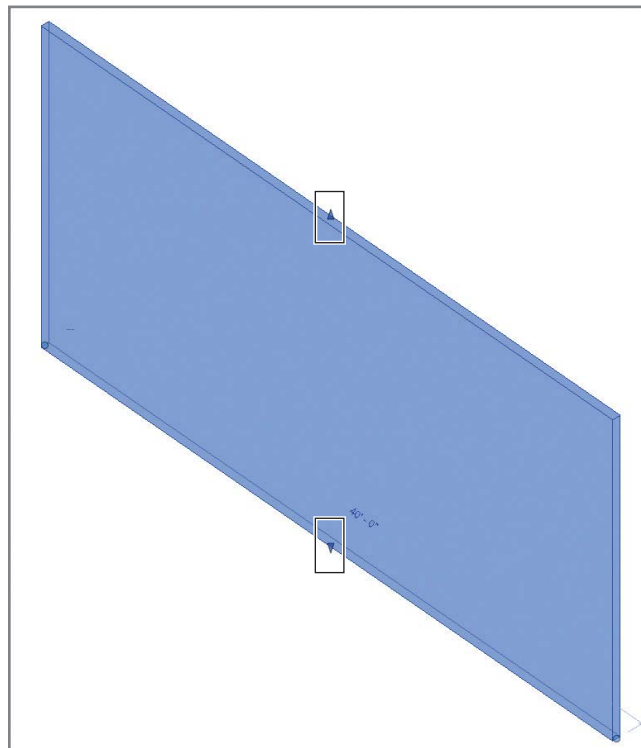

FIGURE 2.12 Wall shape handles
4. Go to the default 3D view, and look at some other options. The highlighted areas of Figure 2.12 are called *shape handles*. You can click and drag them to adjust the top and bottom locations of a wall. As you drag the shape handle, the new location is shown, whereas the existing location is “ghosted” until you release the shape handle.